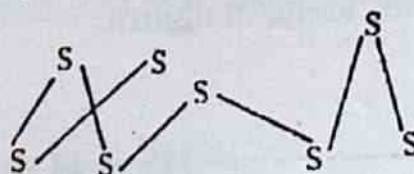

Fig. 4.12 Chains of sulphur atoms
**Structure:—** The plastic sulphur is composed of long chains of sulphur atoms coiled up as given in figure 4.12. The elasticity of plastic sulphur is due to uncoiling of long sulphur chains and then recoiling of chains by the release of tension.